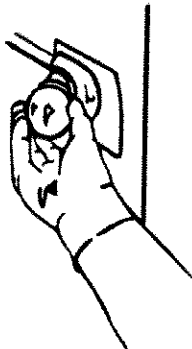

Figure 42
- d. Wear protective gloves to remove defective bulb and replace with functioning bulb. See Figure 42.